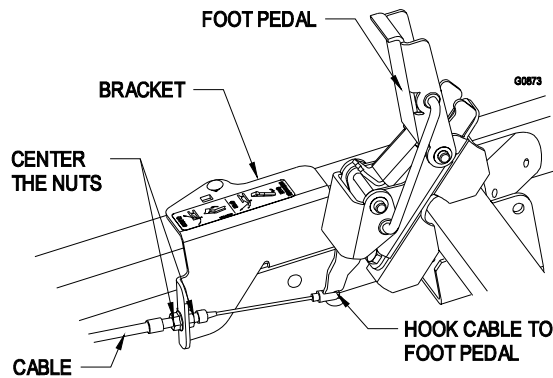

FIGURE 6
- 3.2.6 Install cable. Make sure the nuts are centered as shown in Figure 6.
- 3.2.14 Slide the bracket that is shown in Figure 6, back and forth to adjust the cable tension. Take up the slack in the cable, but it should not be taut. Tighten hardware to retain the bracket.